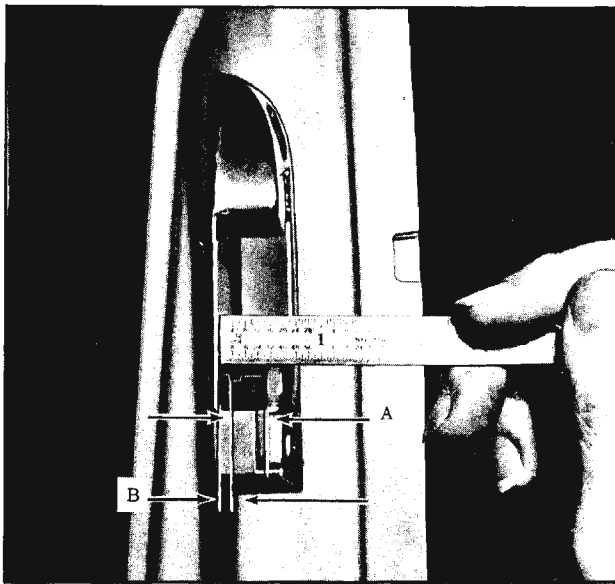

Fig. 16-53 Lock Striker Engagement Check
- To determine if door lock striker emergency spacers are required, apply modeling clay or body caulking compound in door lock striker notch where lock extension engages and close door to form a measurable impression in clay or caulking compound. (Fig. 16-53)